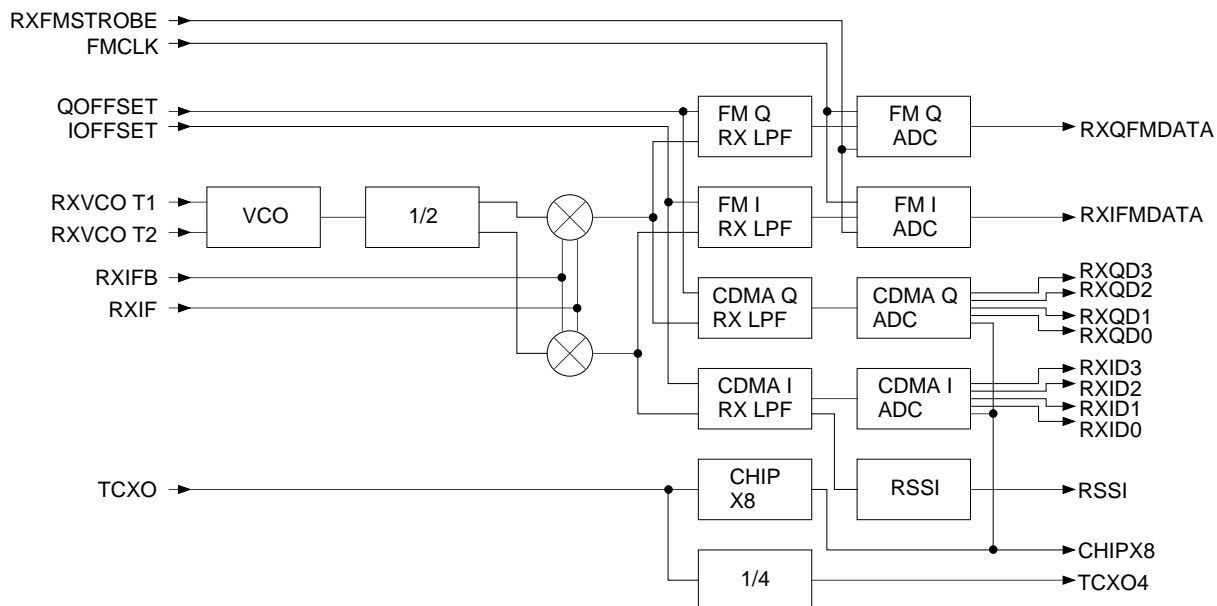

Fig. 7 Receive Section Block Diagram of CXA3003R
This IC receive signal path (see Fig.7) is designed to accept a differential IF signal with CDMA spread spectrum modulation extending ± 630 kHz from the IF center frequency of 85.38 MHz. The incoming IF is reduced to I and Q baseband components by mixing with 85.38 MHz local oscillator (LO) signals in quadrature followed by low-pass filtering.